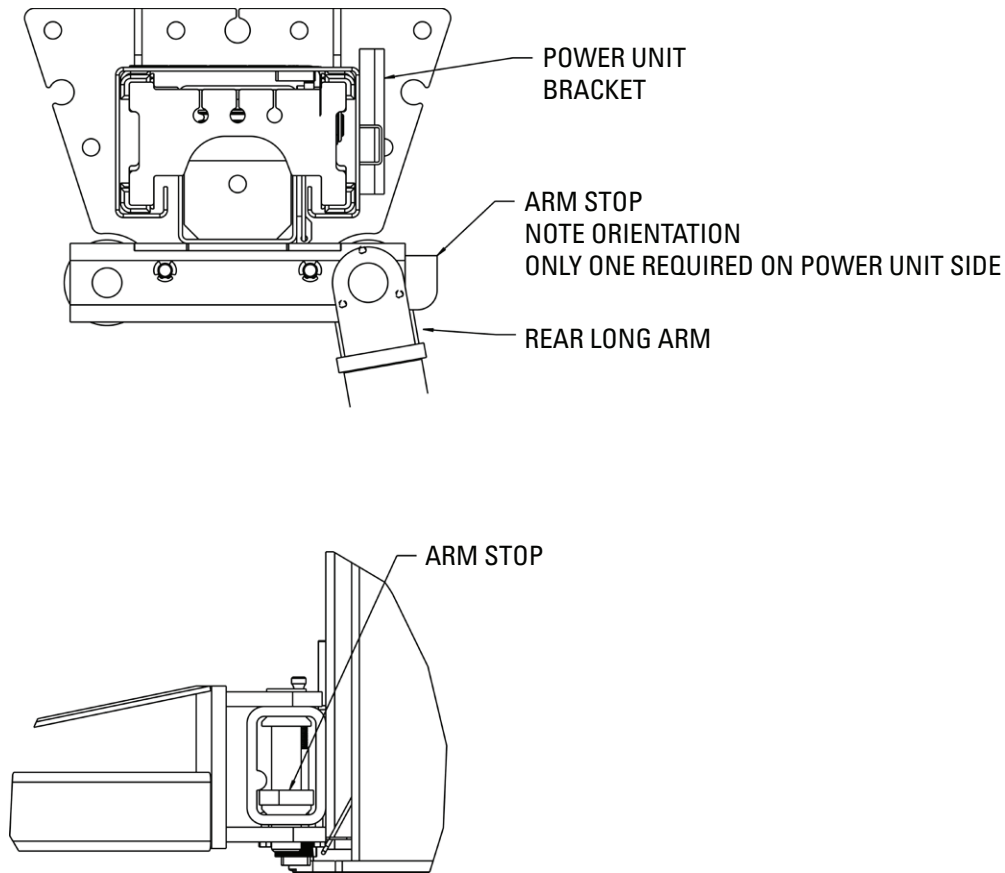

Figure 21
* Install the swing arms and swing arm pins. If the arms are of different lengths, the longer arms go to the rear or drive in side of the lift, and the short arms go to the front, Figure 21.
- * Install the swing arms and swing arm pins. If the arms are of different lengths, the longer arms go to the rear or drive in side of the lift and the short arms go to the front, Figure 21.